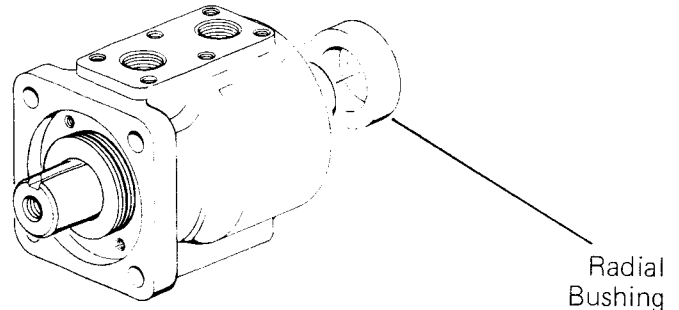

Figure 8
- 18 Push output shaft partially out of Geroler end of housing, then remove radial bushing, see Fig. 8.